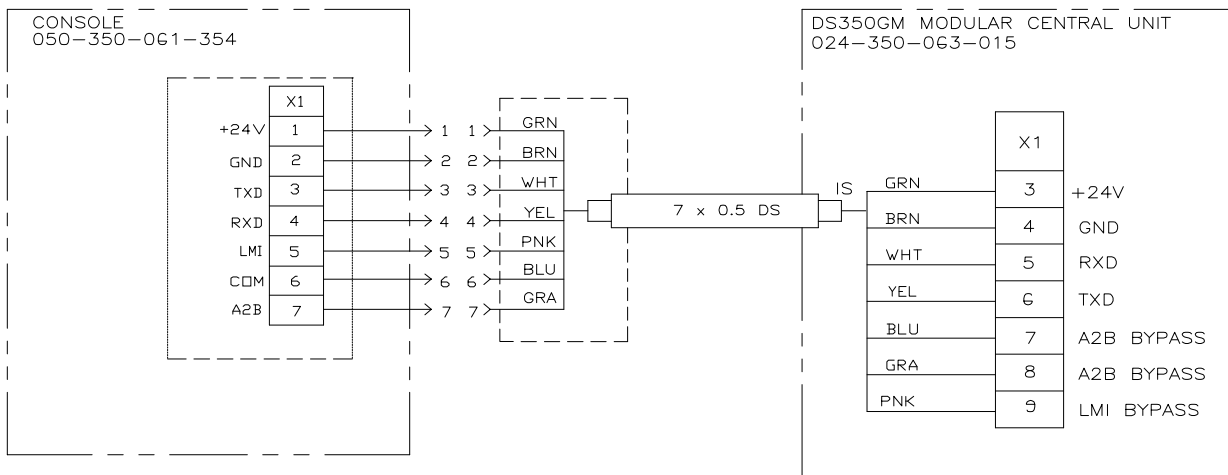

Fig. 19
3. Wire the console cable assembly in central unit referencing the diagram. (Fig. 19)